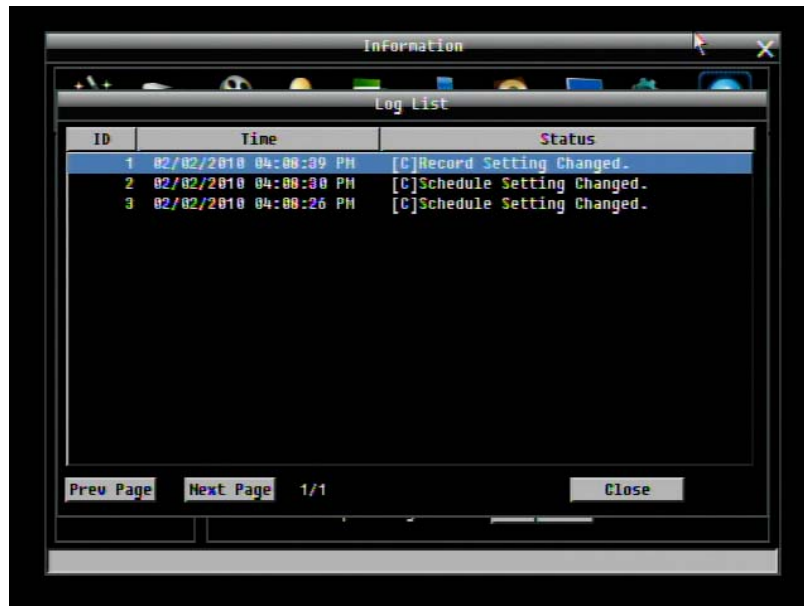

Figure 4-44 Log List
**View Log:** Press “View Log” button to view the log. See Figure 4-44 for more detail.